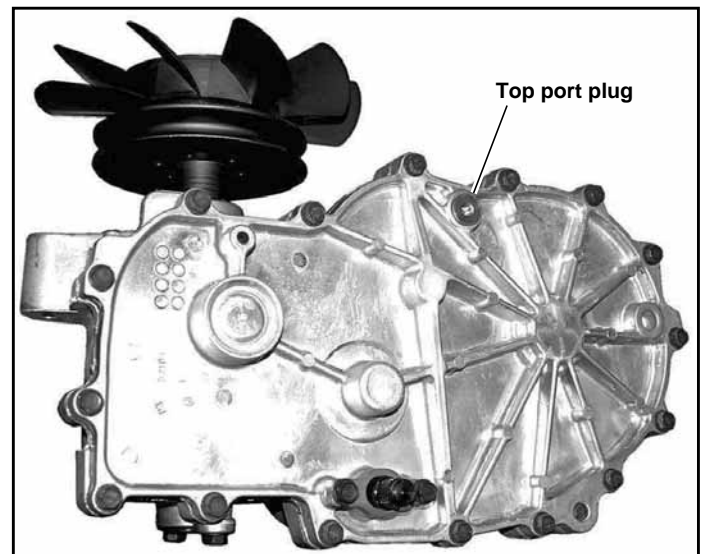

Figure 4-19
9. **IMPORTANT:** Remove the top port plug from both transaxles prior to filling with oil. This will allow the transaxles to vent during oil fill. Figure 4-19
11. Fill with 20W50 motor oil until oil just appears at the bottom of each transaxles top port (approximately 2 qts. per transaxle). Install the top port plug into each transaxle. Torque plugs to 180 in. lbs. Clean up any oil that leaked from the ports. Figure 4-19